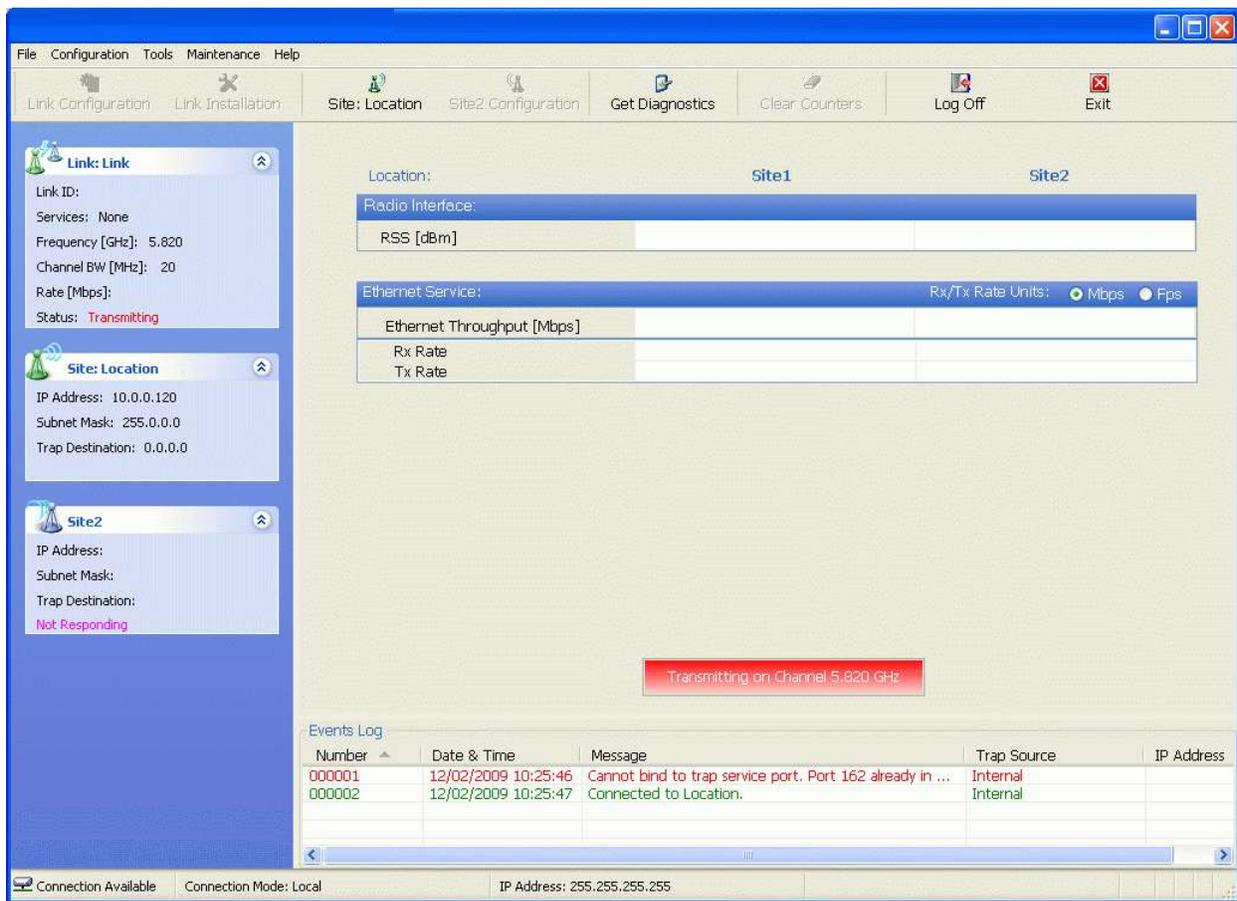

Figure F-2. Opening Link Manager Window prior to Installation
14. You may now exit the Airmux Manager, or connect to another ODU. If you choose to connect to another ODU, after about a minute, the main window of the Airmux Manager will revert to that shown in Figure F-2 above. In any event, power down the changed ODU; the IP address change will take effect when you power it up again.